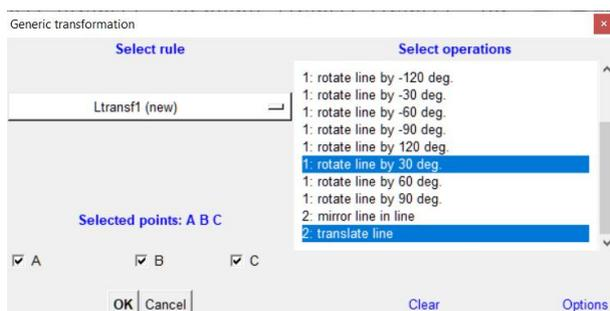

Figure 58
3. A form appears (Figure 58), the name of the declared rule is Ptransf1, Ptransf2,... for points, Ltransf1, Ltransf2,... for lines, Ctransf1, Ctransf2,...for circles.
We first comment on the form for declaring rules for transforming lines. Recall that the form appears after a line was selected in the base construction. In our case (Figure 58), the base example clearly contains points A,B,C. You need to select the operations and the points that define the operations. In Figure 58, three points have been selected and two operations (rotation by 30 degrees and translation). Rotation by 30 degrees is defined by 1 point (see '1:' in front of the name of the operation). Thus the generated line in the examples is the original line rotated by 30 degrees around A, around B and around C. In further examples (resulting from the same rule) the generated line is the translation of the original line by vectors AB, BA, AC, CA, BC, CB. Altogether, the rule produces 9 lines, which are transformations of the original line.